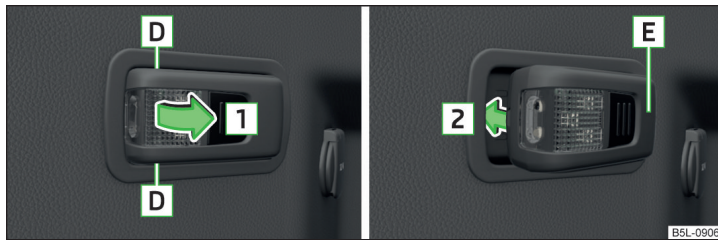

Fig. 110 Removable light: Removing / Inserting
- To **remove**, hold the light in the area **D** and swivel in the direction of arrow **1**» Fig. 110.
- To **insert**, first of all insert the light with the rear part **E** into the mount » Fig. 110 and then push the light in the direction of arrow **2** until it audibly clicks into place.